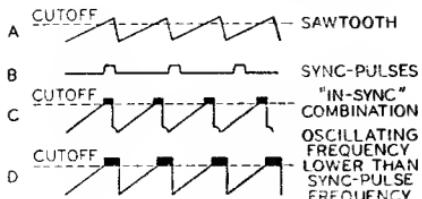

Fig. 71
across the capacitor  $C_2$ . A portion of this sawtooth is fed back to the grid of the control tube,  $V_1$ . The positive sync pulses are also applied to the grid of  $V_1$ . The waveforms shown in Fig. 71 illustrate the sawtooth and sync pulses (A and B) and their proper "in-sync" combination (C). The sync pulse occurs partly during the portion of the sawtooth voltage in which the triode  $V_1$  draws current. Any shift in sync pulse as it is superimposed
For example, waveform D in Fig. 71 illustrates a condition in which the sawtooth voltage is advanced in phase with respect to the sync-pulses. The widening of the pulse which occurs at the corner of the sawtooth waveform allows the control tube to conduct more current and, consequently, allows the capacitor  $C_1$  to charge to a higher voltage. This increased reference voltage also appears in the grid circuit of  $V_2$ , and makes the grid more positive. The increased grid voltage then speeds up the frequency of oscillations until proper synchronization results.